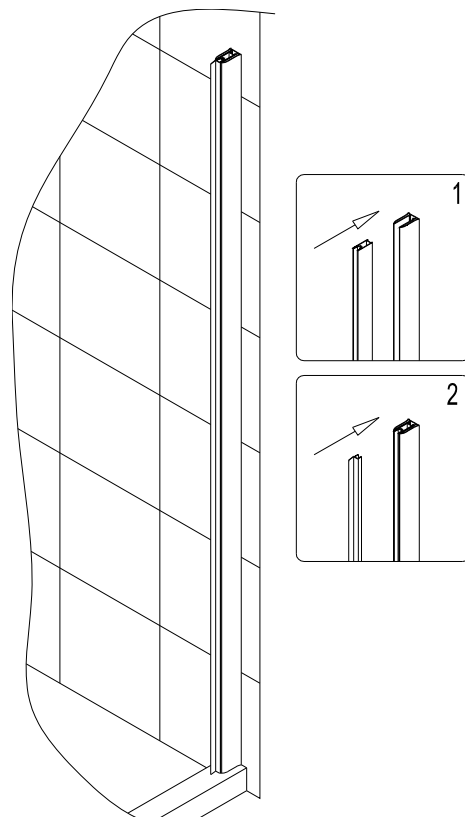

Fig 10
10. Push the **Glass profile (5)** into the groove of the **Wall profile (6)**; then push the **Anti-water strip (22)** into the groove of the **Glass profile (5)**. See Fig 10 for details.